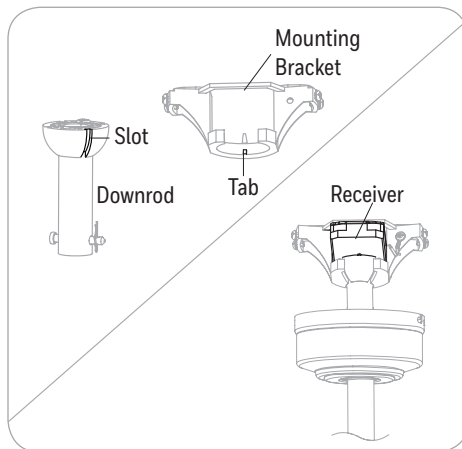

Figure 3.5
5. Install the ball end of the downrod into the opening of the mounting bracket. **WARNING:** Failure to align the slot in the ball with the tap on the mounting bracket may cause the fan to fall, which could result in injury or death. Then, insert the receiver into the opening of the mounting bracket with flat side facing up (Figure 3.5).